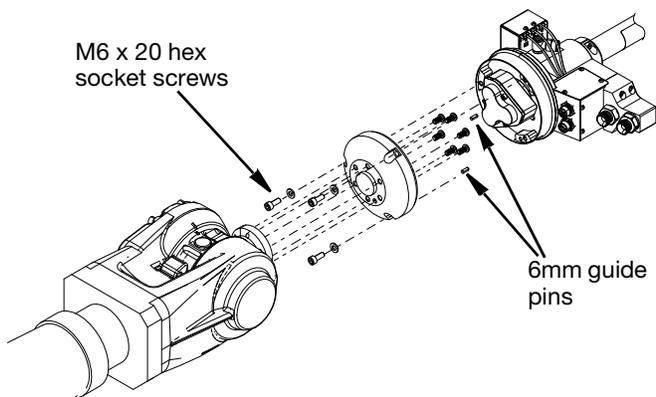

FIG. 3
2. The mounting flange is then attached to the body of the Switch 3D Gun with three M6x20 hex socket screws. Torque to 98.2 in-lbs (11.1 N•m). It is important to make sure the 6mm guide pins supplied with the kit are inserted into the correct positions. See FIG. 3.